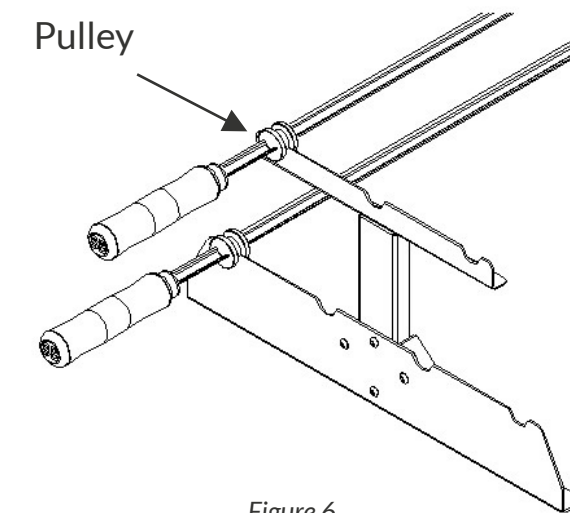

Figure 6
d) After securing the parts, adjust the Skewer Pulley. The Pulley should be loosened and its channel positioned in the center of the Front Support (Figure 6). Then, retighten the screw that secures the Pulley to the skewer, ensuring it is firm to prevent the skewer from dislodging from the Rear Structure and falling into the fire.